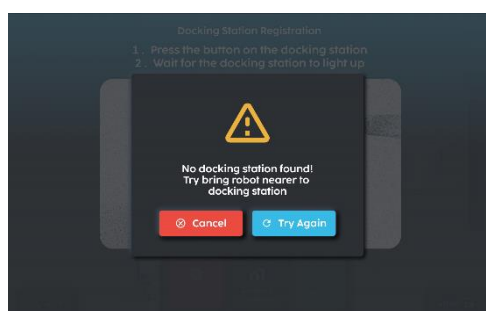

Fig 11
12. If the station is not found Fig 11), bring the robot closer to the station. Then select 'Try Again'.